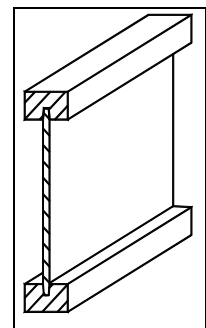
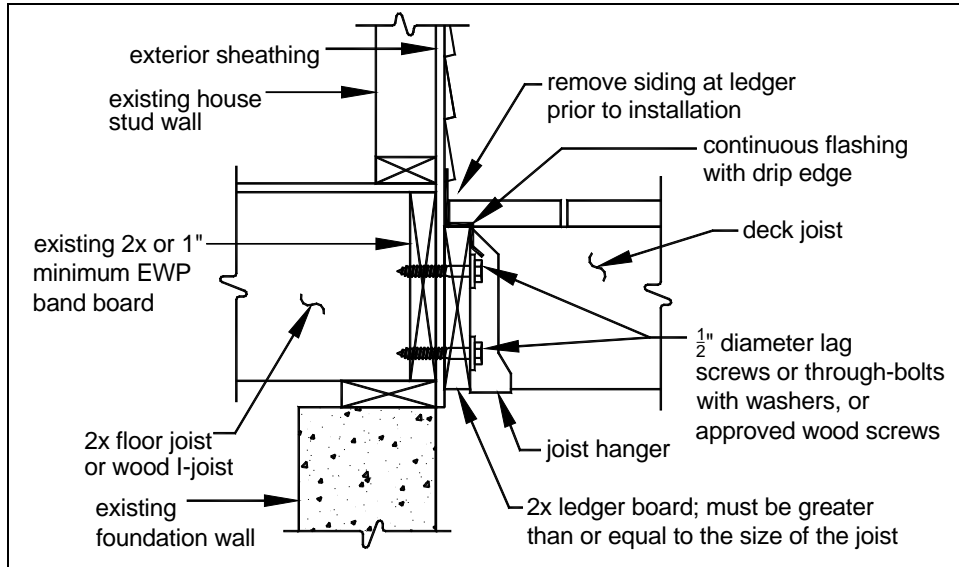
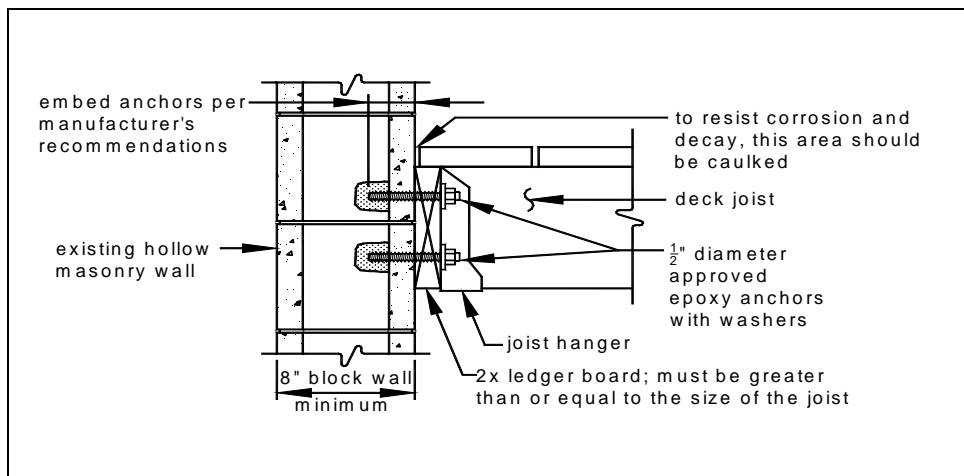

FIGURE 13: WOOD I-JOIST PROFILE
FIGURE 14: ATTACHMENT OF LEDGER BOARD-TO-BAND BOARD
FIGURE 16: ATTACHMENT OF LEDGER BOARD-TO-FOUNDATION WALL (HOLLOW MASONRY)
- The attachments shall be in accordance with FIGURE 14 through FIGURE 16.
- Continuous flashing with a drip edge, as shown in FIGURE 14, is required at the ledger board when connected to a wood band board.
Many homes constructed with wood I-joists, as shown in FIGURE 13, have a 1" or thicker engineered wood product (EWP) band board capable of supporting a deck; see FIGURE 14. If a minimum 1" EWP or 2x band board is not present, then a free-standing deck is required. See *Free-Standing Decks* on Sheet 15 for more information.
When attaching to concrete, solid masonry or hollow masonry, use one of the approved epoxy anchors listed in TABLE 5 with a minimum diameter of $\frac{1}{2}$ ". Installation shall be in conformance to the manufacturer's instructions and as shown in FIGURE 16 for hollow masonry. **Epoxy cartridges must be remain on the jobsite until inspector approval.**
- Lag screws may be used only when the field conditions match those shown in FIGURE 14.